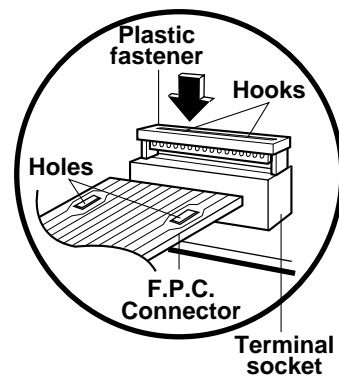

Figure 12
Follow the steps below as illustrated in Figures 12 and 13 to insert the F.P.C. connector.
- (1) Insert the F.P.C. connector into the terminal socket securely with the fingers.
- (2) Hold the plastic fastener with thumb and forefinger of the other hand, and push it slowly into the terminal socket. (Figure 12)